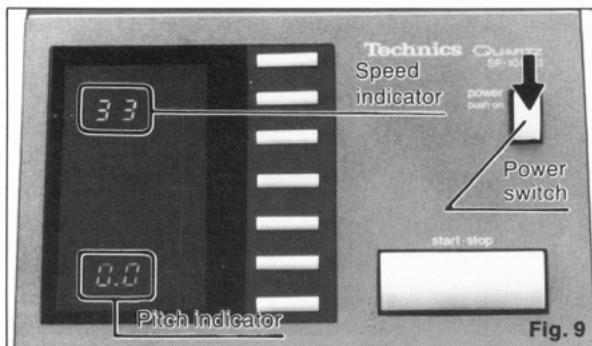

Fig. 9
1. Turn on the control unit power switch. (Fig. 9)